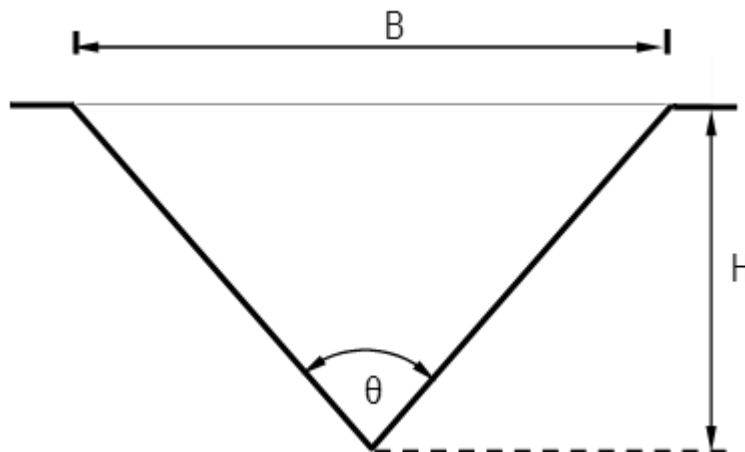

FIGURE 3 (3)
2.3 FIGURE 3 below shows a 90° notch that has a coefficient of discharge of 0,7. ◆ The quantity of water flowing over the notch has been observed at the head above the bottom of the notch of 899 mm.